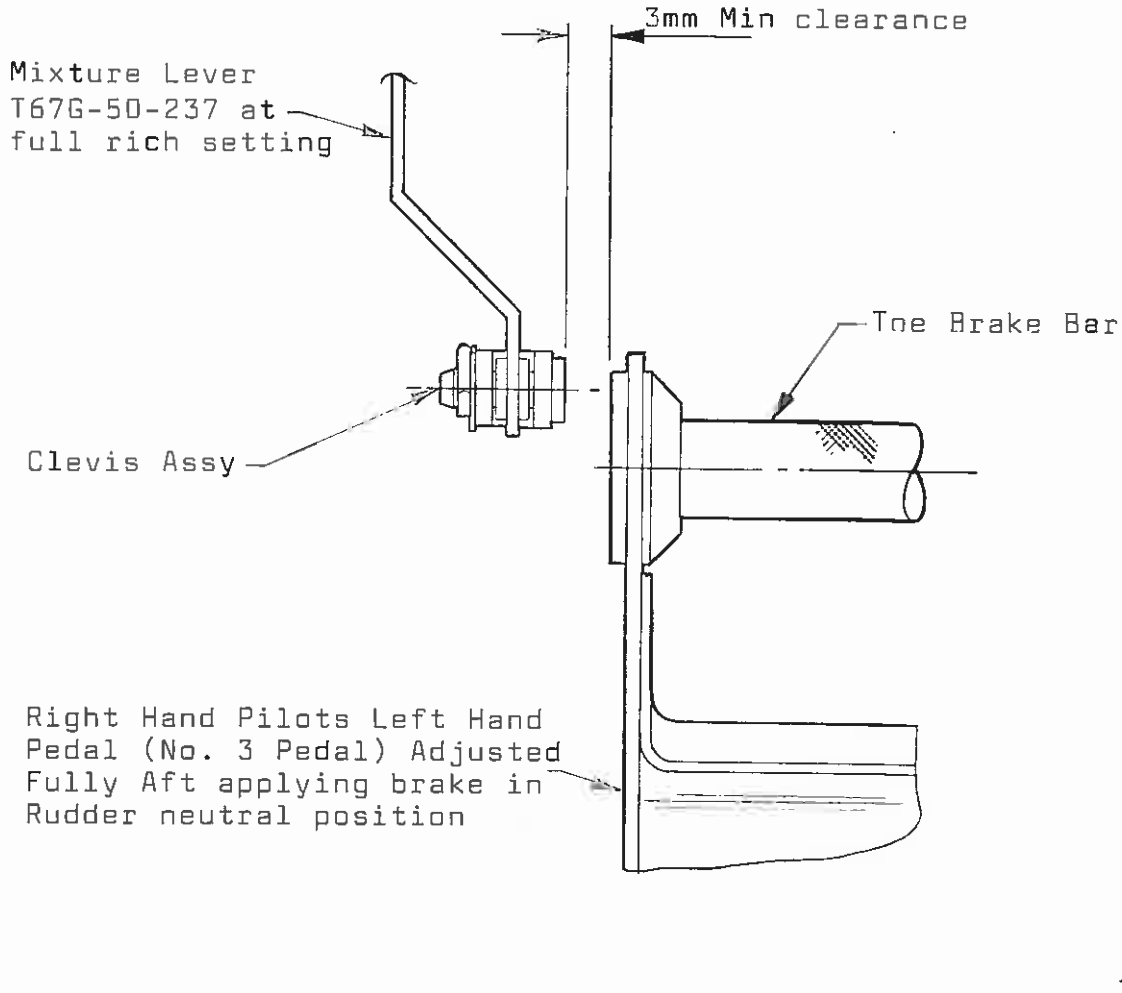

Fig 1
1. With mixture lever in fully rich position, adjust R.H. pilot's pedal fully aft. Then with neutral rudder applied apply full brake together with a left hand side force, sufficient to take up any free play, on the pedal side plate. Check pilots left hand pedal (pedal No.3) clearance with mixture lever. Refer to Fig. 1.